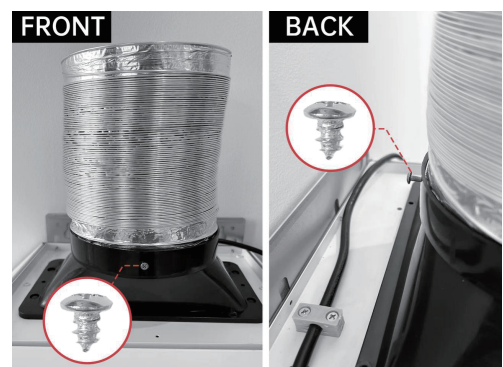

Figure 5
- Attach the duct to the exhaust outlet using screws ST4x6. Figure 5